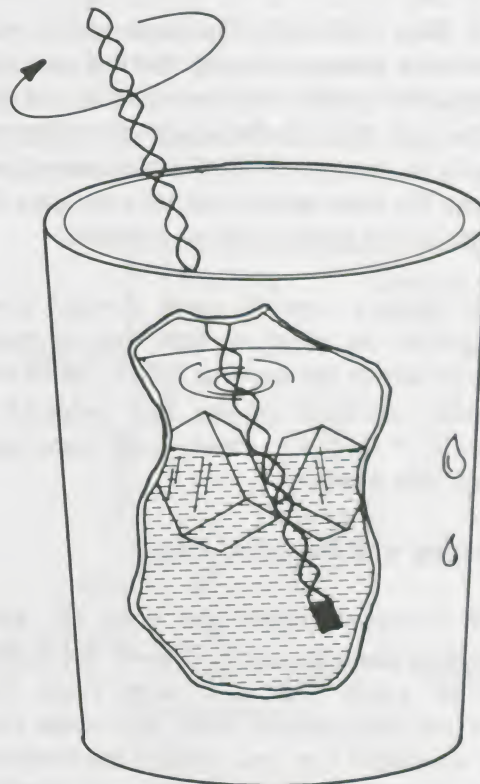

Figure 44.
1. Put warm water and ice in a metal cup and stir the mixture constantly with the thermistor. This keeps the temperature throughout the cup uniform. See Figure 44.